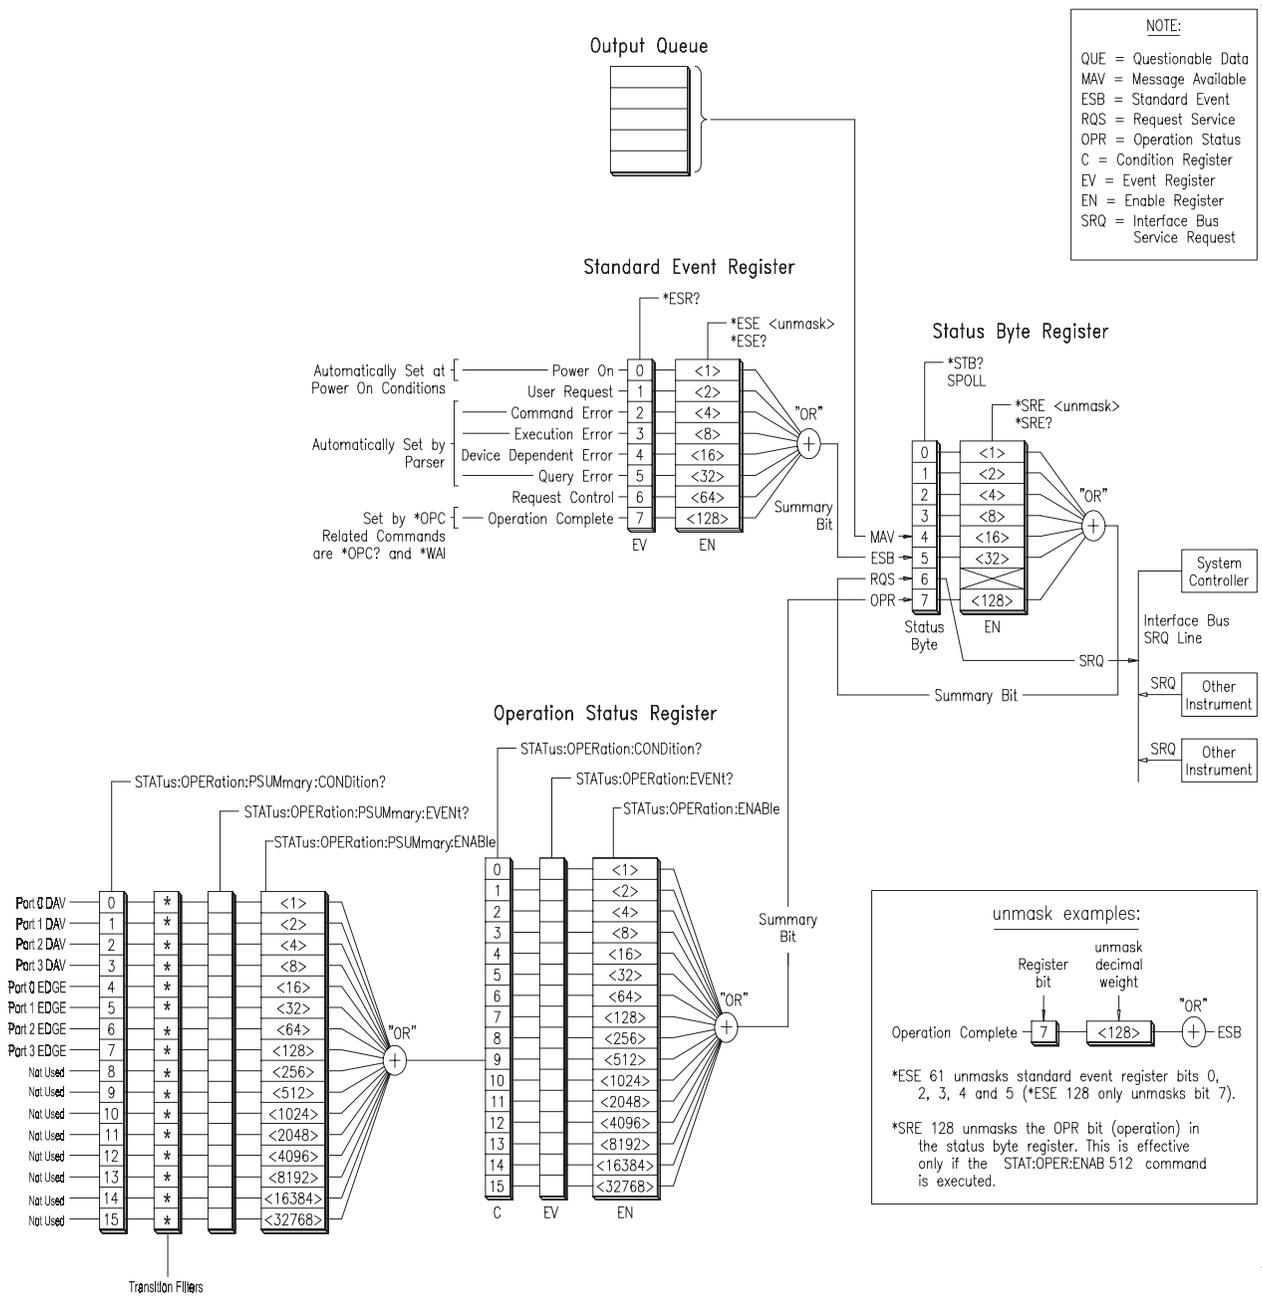

Figure 3-1. HP E1459A Status System Register Diagram
The STATus system contains five registers, two of which are under IEEE 488.2 control: the Event Status Register (*ESE?) and the Status Byte Register (*STB?). The Operational Status bit (OPR), Service Request bit (RQS), Event Summary bit (ESB), Message Available bit (MAV) and Questionable Data bit (QUE) in the Status Byte Register (bits 7, 6, 5, 4 and 3 respectively) can be queried with the *STB? command. Use the *ESE? command to query the *unmask* value for the Event Status Register (the bits you want logically "OR'd" into the Summary bit). The registers are queried using decimal weighted bit values. The decimal equivalents for bits 0 through 15 are included in Figure 3-1.
- <mask> determines which OPERATION Status conditions are summed. See Figure 3-1. The events detected in the Port Summary Status Register are reported in bit 9 of the Operation Status Register which in turn is reported in bit 7 of the Status Byte Register.
- The only defined bit is bit 9 which is the summary of the Data Available and Edge Status for Ports 0, 1, 2, and 3. See Figure 3-1.
- Bits 0 through 3 reflect Data Available on Ports 0 through 3 respectively; bits 4 through 7 reflect edge events on Ports 0 through 3 respectively. See Figure 3-1.
- This mask determines which Operation Status Port Summary Events are summed and reported in bit 9 of the Operation Status Register. Bits 0 through 3 reflect Data Available on Ports 0 through 3 respectively; bits 4 through 7 reflect edge events on Ports 0 through 3 respectively. See Figure 3-1.